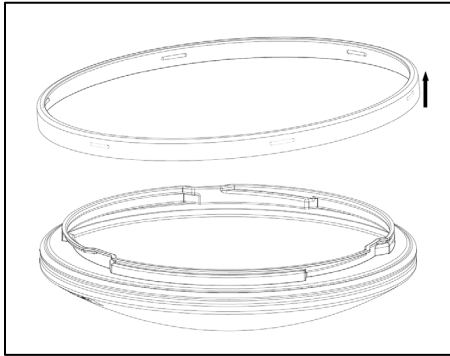

Figure 5
2. Remove the white deco trim (3) from the diffuser by removing it from the top opening side only. (See Figure 5)